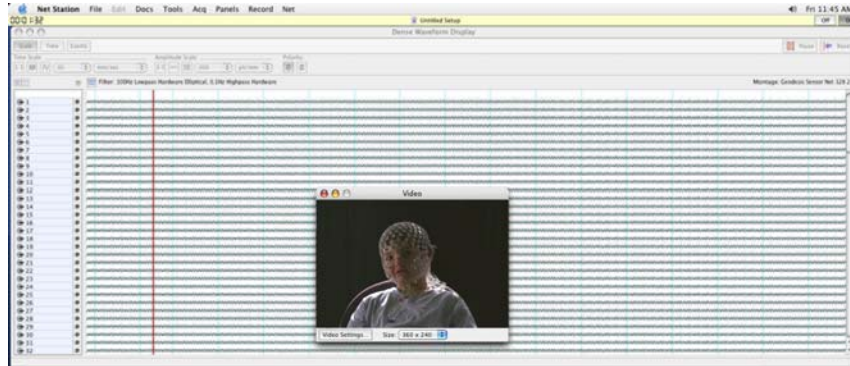

Figure 9-2. Digital Video display floating over the Dense Waveform Display
- 3 Enter the Session information and click the Begin Session button to initiate acquisition and to view the draggable Digital Video display floating on top of the Dense Waveform Display, as shown in Figure 9-2 (if the template is not set up to display the video display automatically, choose **Panels > Video**).